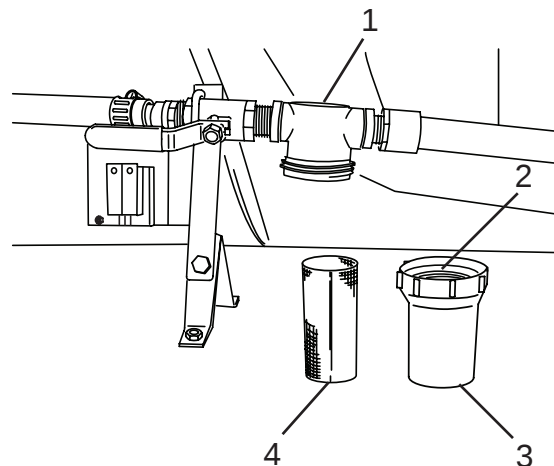

Figure 123
1. Remove (unscrew) the cup (Figure 123, Item 3), and remove the cup and strainer (Figure 123, Item 4) from the strainer head (Figure 123, Item 1).
2. Clean the strainer (Figure 123, Item 4) with clear water. Inspect the strainer. Replace if torn or damaged.
3. Inspect the cup seal (Figure 123, Item 2). Replace if torn or damaged.
4. Install the strainer (Figure 123, Item 4) and cup (Figure 123, Item 3).